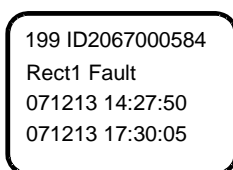

Figure 4-17 History alarm page
- 2) If there is history alarm, the page shown in Figure 4-17 will be displayed.
If the alarm is a rectifier related alarm, the first line in Figure 4-17 will display the latter 10 number of the rectifier ID. The history alarms of the controller are stored in cyclic order. Up to 200 alarms will be recorded. Above that, the earliest alarm will be cleared automatically.